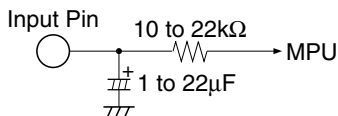

Figure 2 Interface for Reduction of Pop Noise
- Reducing pop noise is so much better for 10 k Ω to 22 k Ω resisitor and 1 μ F to 22 μ F capacitor shown figure 2.